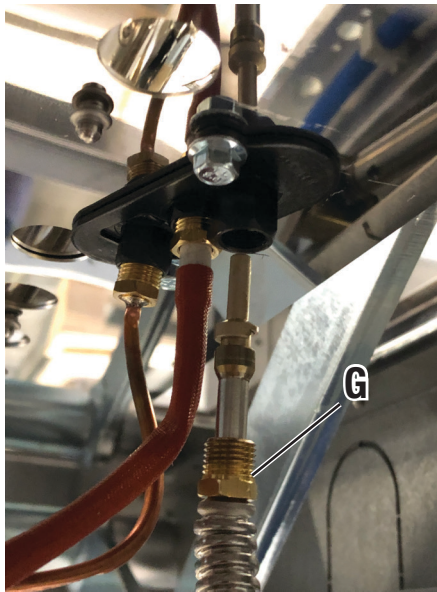

Fig.7.
4. Remove the nozzle (Fig.7) and replace it with the one for the type of gas chosen